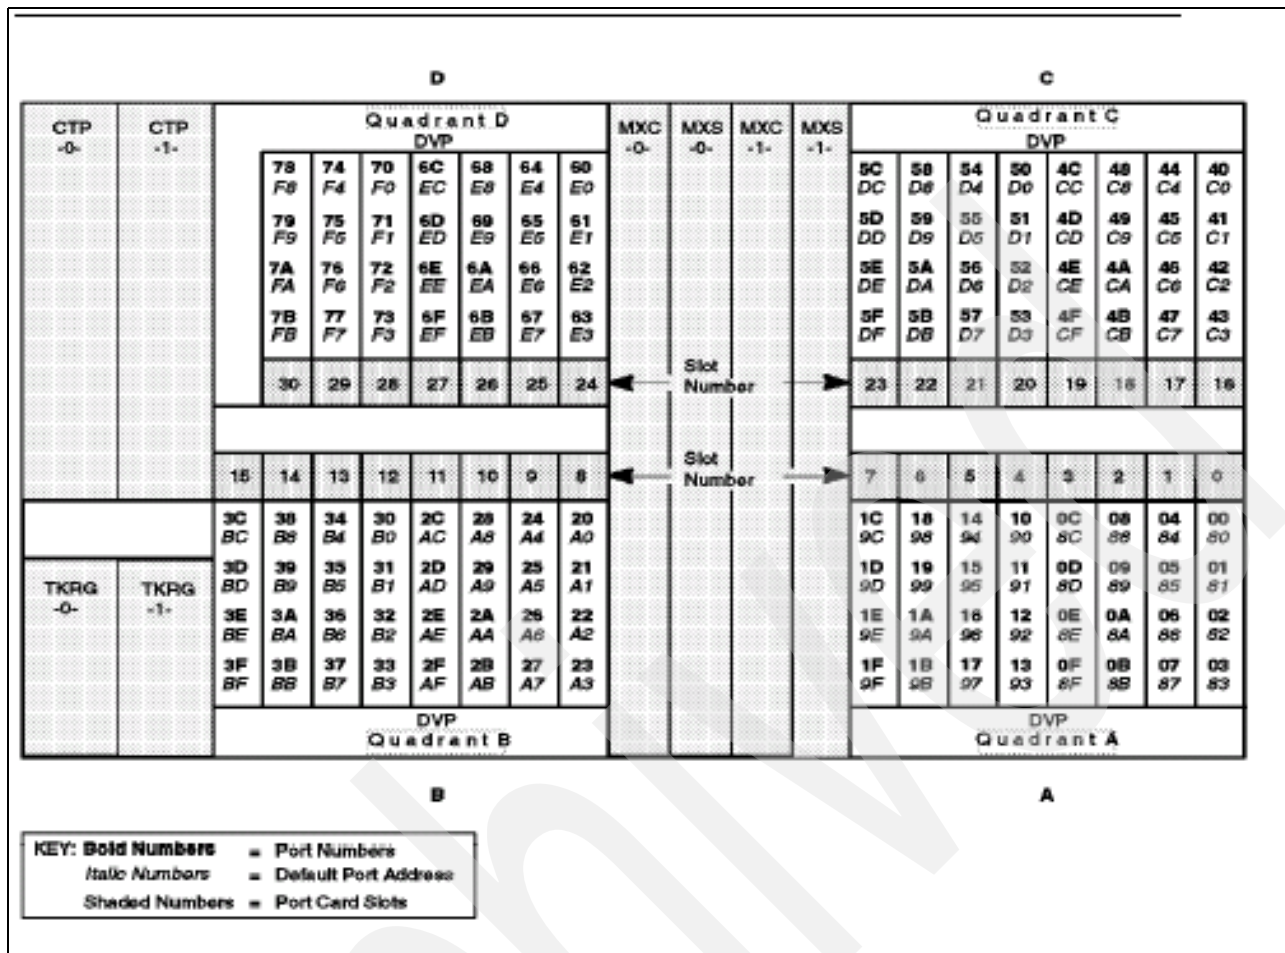

Figure 3-5 Port view of 9032 model 3
This is the description of the ESCON Director SAN. From the beginning, ESCON switches or “directors” were high availability (HA) high port count switches. Figure 3-5 on page 48, Port view of 9032 model 3 is from approximately 1995 - 1996. This is a one hundred and twenty port switch with the high availability N+1 features, additional power, controller card, and cooling that you see in modern HA core or director class switches.